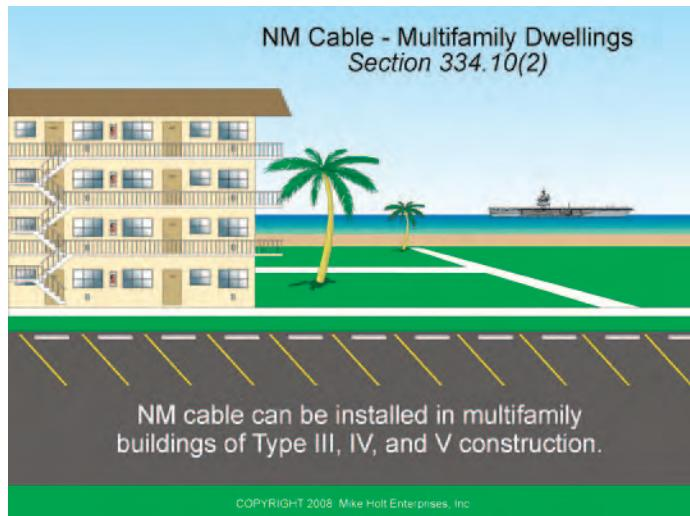

Figure 334–2
- (3) Other structures permitted to be of Types III, IV, and V construction, except as prohibited in 334.12. Cables must be concealed within walls, floors, or ceilings that provide a thermal barrier of material with at least a 15-minute finish rating, as identified in listings of fire-rated assemblies. **Figure 334–3**